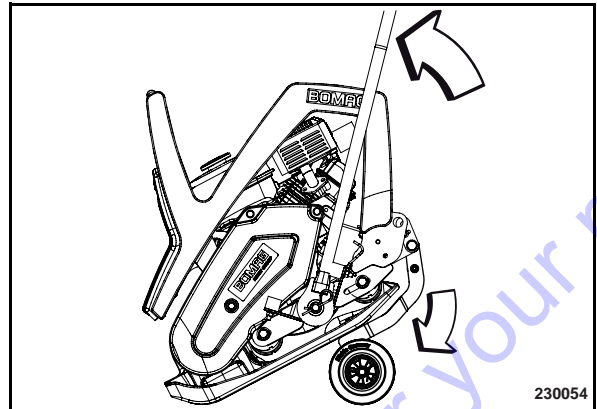

Fig. 38
- Push the vibratory plate up by the guide handle (Fig. 38) and fold the transport wheels under the base plate.